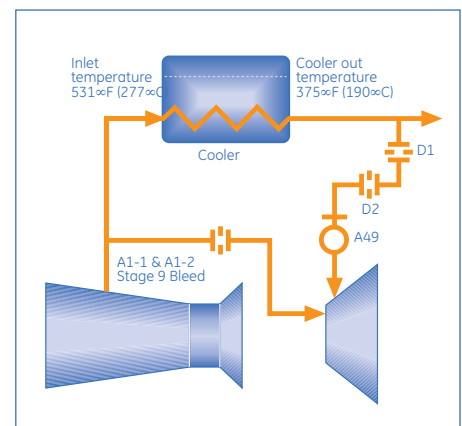

Figure 2
- Additional cooling manifold (air taken from 9th stage bleed), see Figure 2